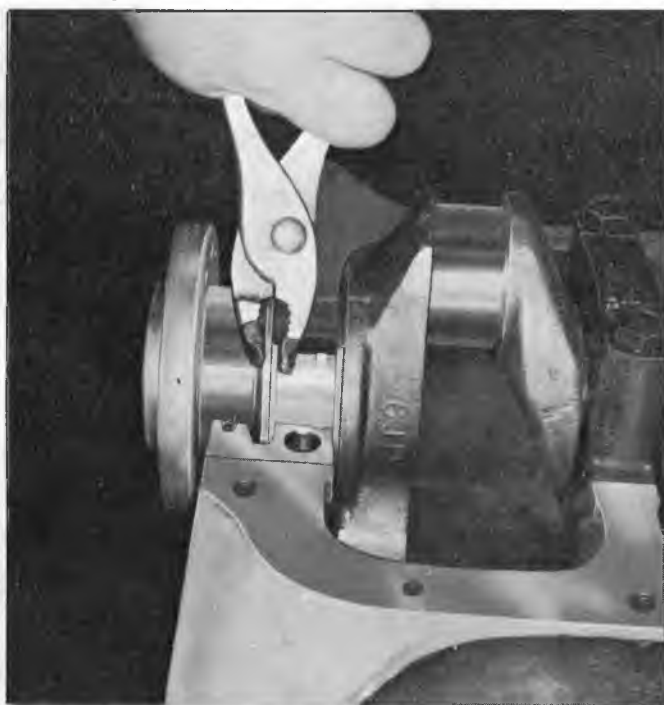

Fig. 43—Replacing Upper Main Bearing (In-Line)
- b. Use a pair of pliers (with taped jaws) to hold the bearing thrust surface to the oil slinger and rotate the crankshaft to remove bearing (fig 43).